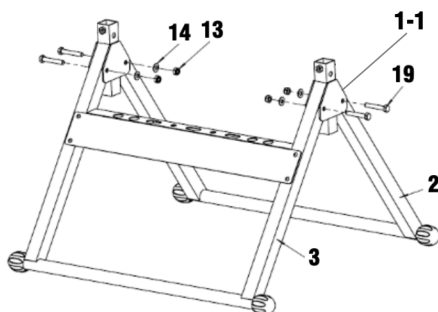

Fig. 1
1. Attach 2 vertical post-angle brackets (Fig. 1-1) to the 2 support legs (#2, 3) using 4 washers (#14), 4 M8 nuts (13) and 4 M8 x 50 bolts (#19) (Fig. 1).